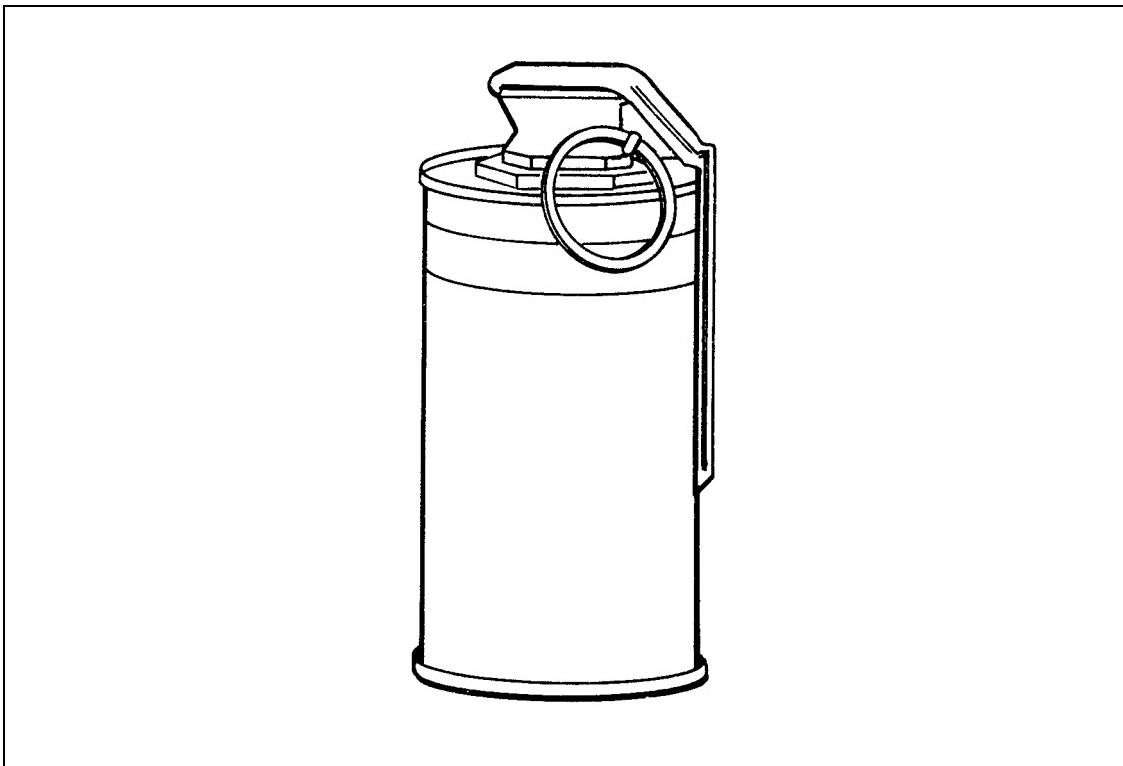

Figure F-16. No. 83 N 201 riot-control hand grenade.
- Type: Lachrymatory. (Figure F-16)